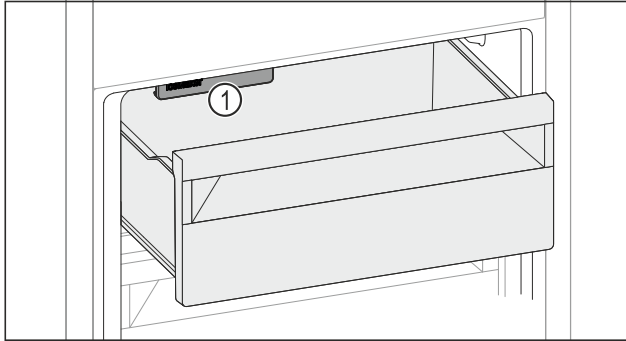

Fig. 65
- ▶ Watch out for the IceMaker Fig. 65 (1).